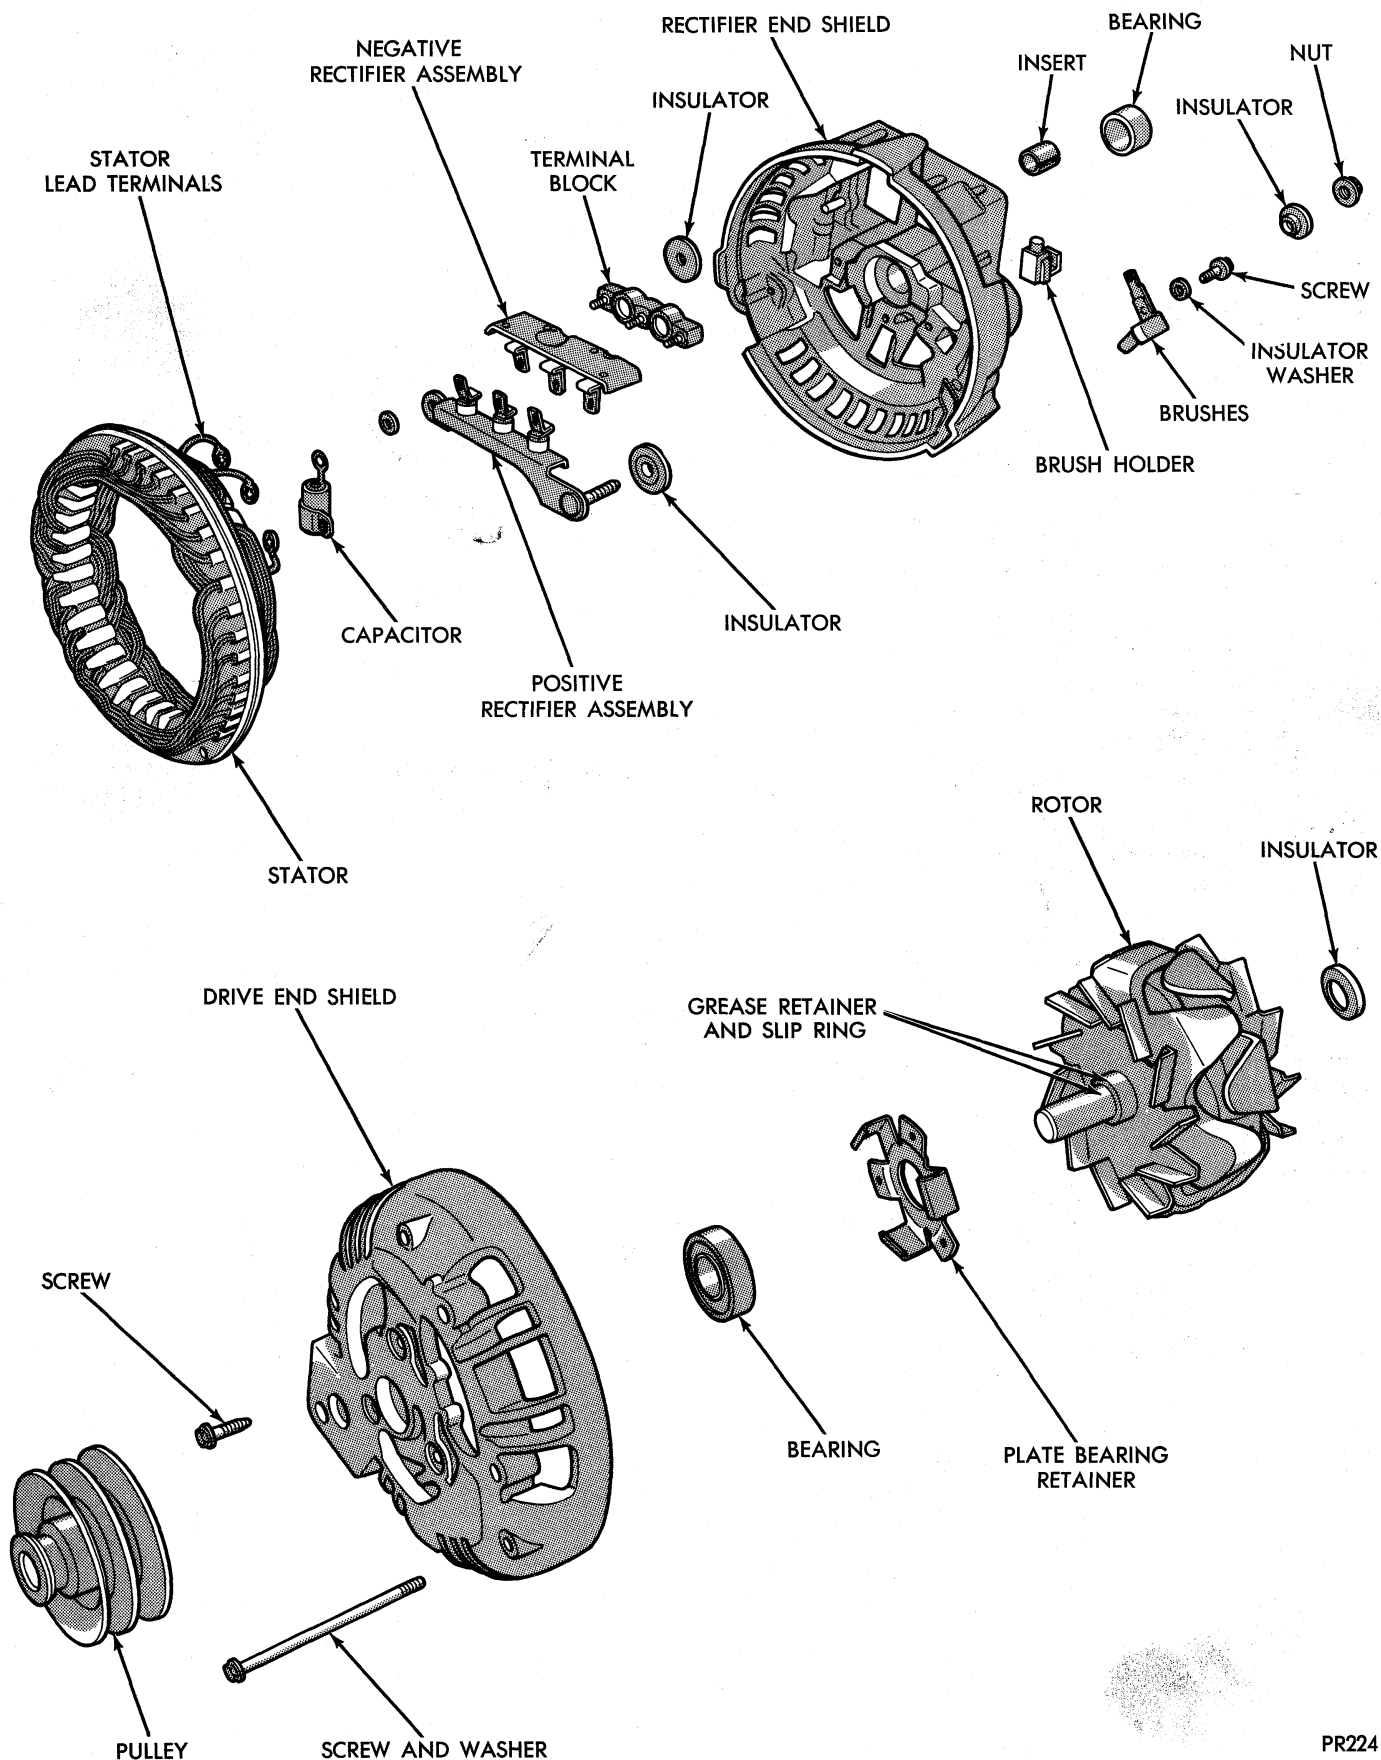

Fig. 1—Alternator Exploded View
The alternator (Figs. 1 and 2) has six (6) built-in silicon rectifiers, that convert A.C. current into D.C. current. Current at the "output" terminal is D.C.